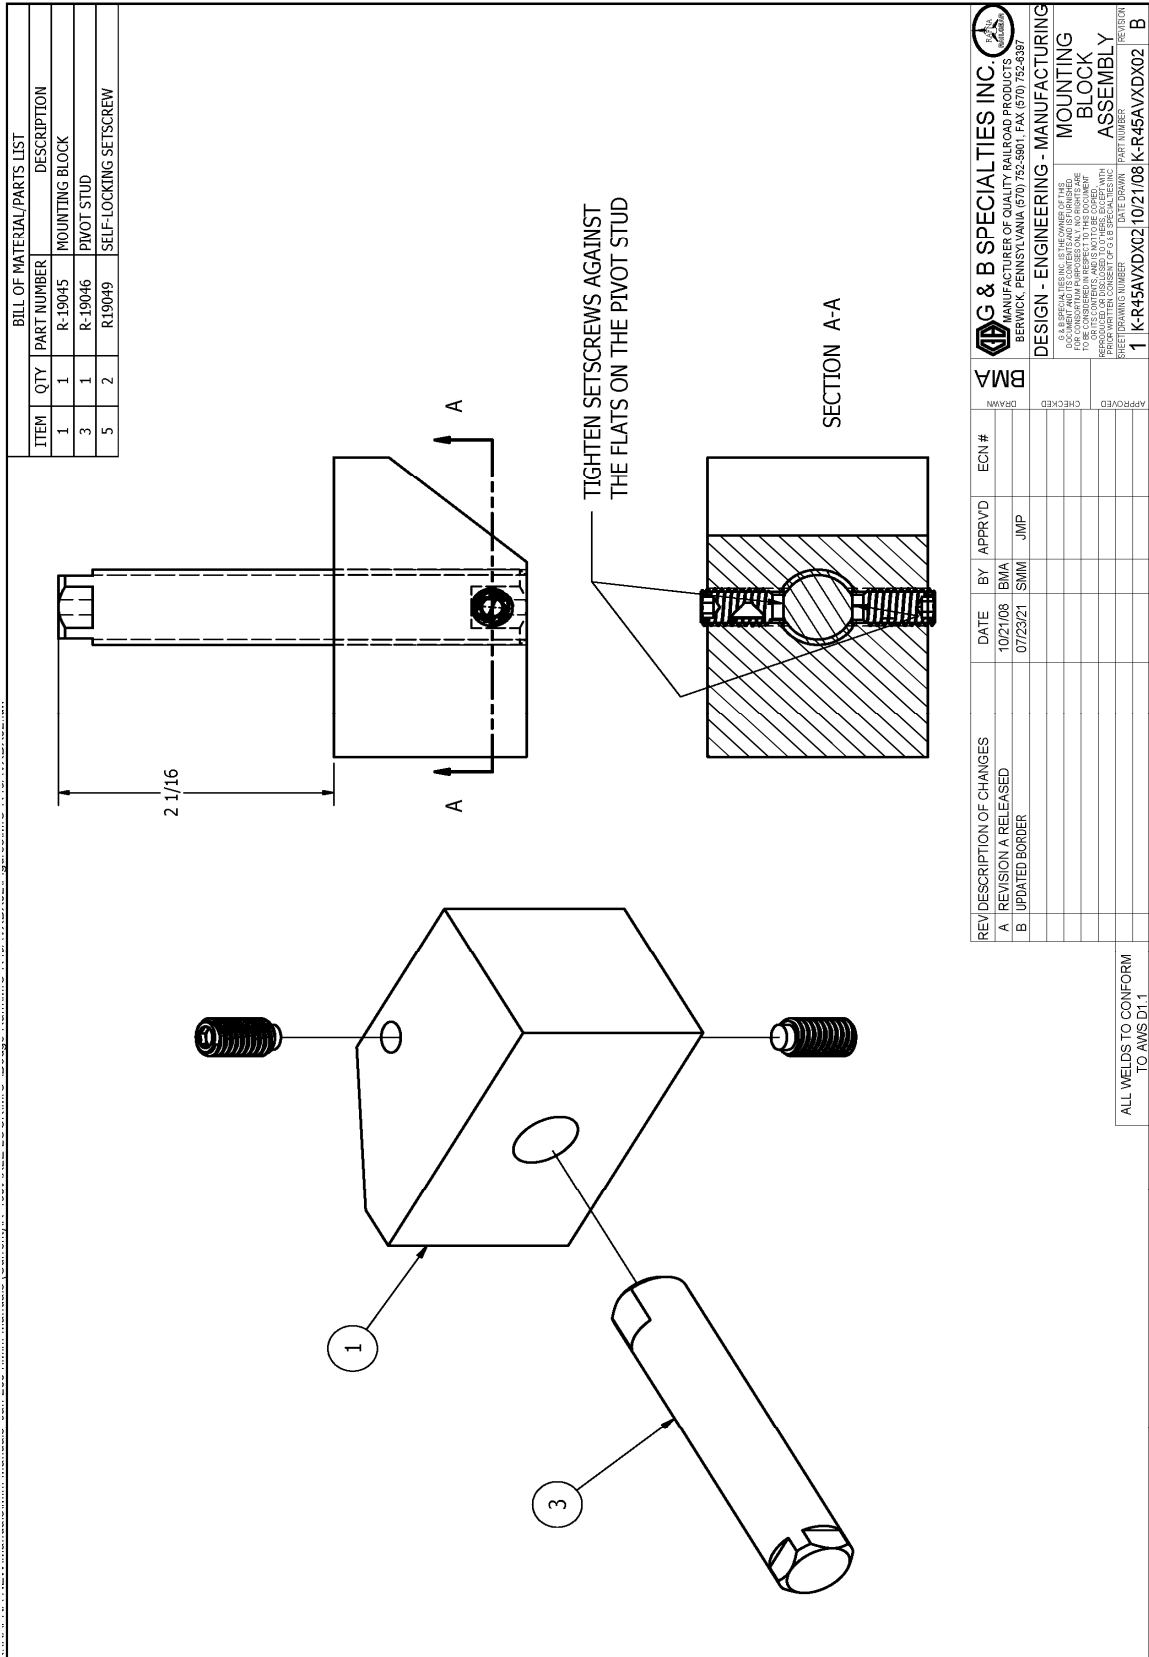

Figure 4: Mounting Block Assembly
4. Bench assemble the mounting block, pivot stud, and self-locking setscrews, making sure the setscrews fasten tight against the flats on the pivot stud as shown in Figure 4.